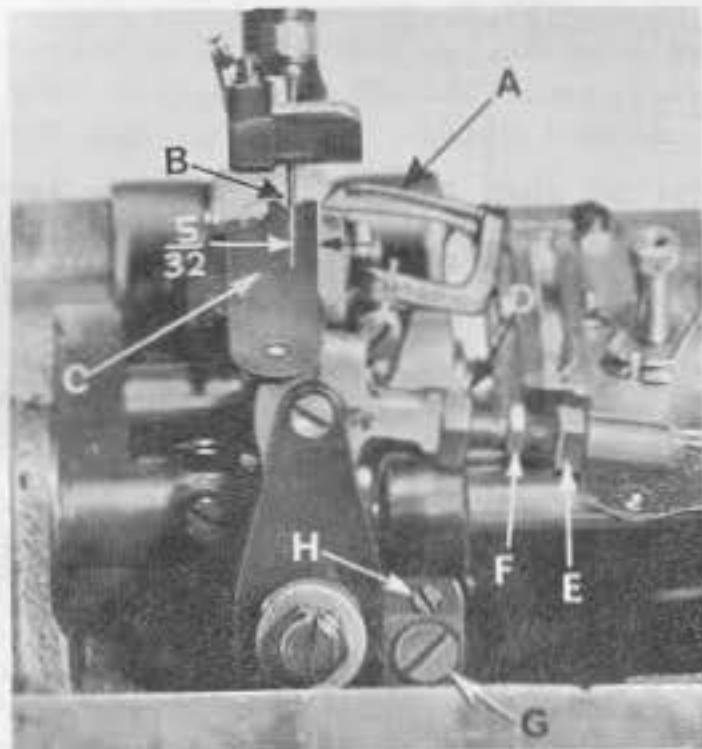

Fig. 6
Insert a new needle, type and size as specified. If the looper gauge is 5/32 inch (3.97 mm), for example, set the looper (A, Fig. 6) so the distance from the center of the needle (B) to the point of the looper is 5/32 inch (3.97 mm), when the looper is at its farthest position to the right. Looper gauge No. 21225-5/32 (C) can be used advantageously in making this adjustment. On two needle machines set the back looper to the right needle and on three needle machines set the middle looper to the middle needle, when setting the looper gauge. Refer to chart for needle Type, looper gauge setting and looper gauge number. If adjustment is required, loosen nut (D) (it has a left hand thread) and nut (E) on connecting rod (F), turn the connecting rod forward or backward to obtain the 5/32 inch (3.97 mm) dimension. Retighten both nuts, first nut (E), then nut
If adjustment is necessary, loosen lock screw (G, Fig. 6) and turn stop screw (H) as required. Turning stop screw clockwise sets the looper to the rear and turning it counterclockwise acts the reverse. Holding looper to the front while making this adjustment may prove helpful. Tighten lock screw when setting is obtained and recheck the adjustment.